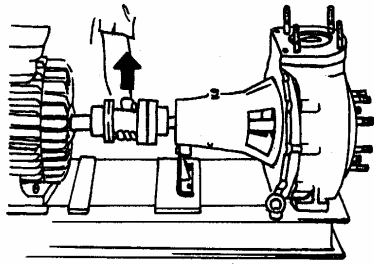

Fig. 3
- 1) Unscrew (right-hand thread) the body tightening nuts (pos. 34). (**CDM-CGD series**).
- 5) Loosen the socket head screws which fix the hub to the motor; slide the piece towards the motor itself so as to be able to extract the spacer **fig. 3 (only CGD series)**.